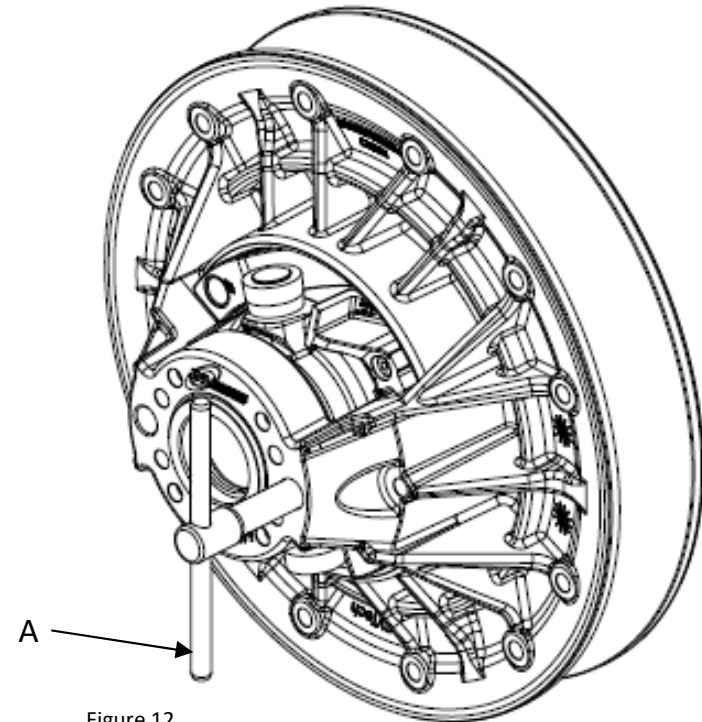

Figure 12
- If the drive belt is installed, screw the flange spreader "A" in the one of threaded holes, as shown in figure 12, to remove the drive belt.